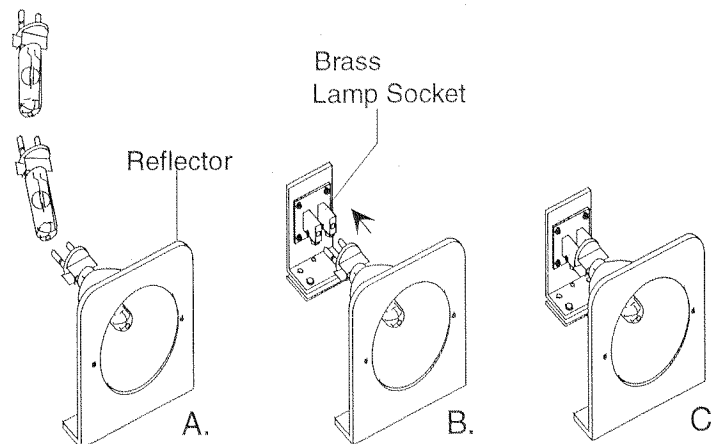
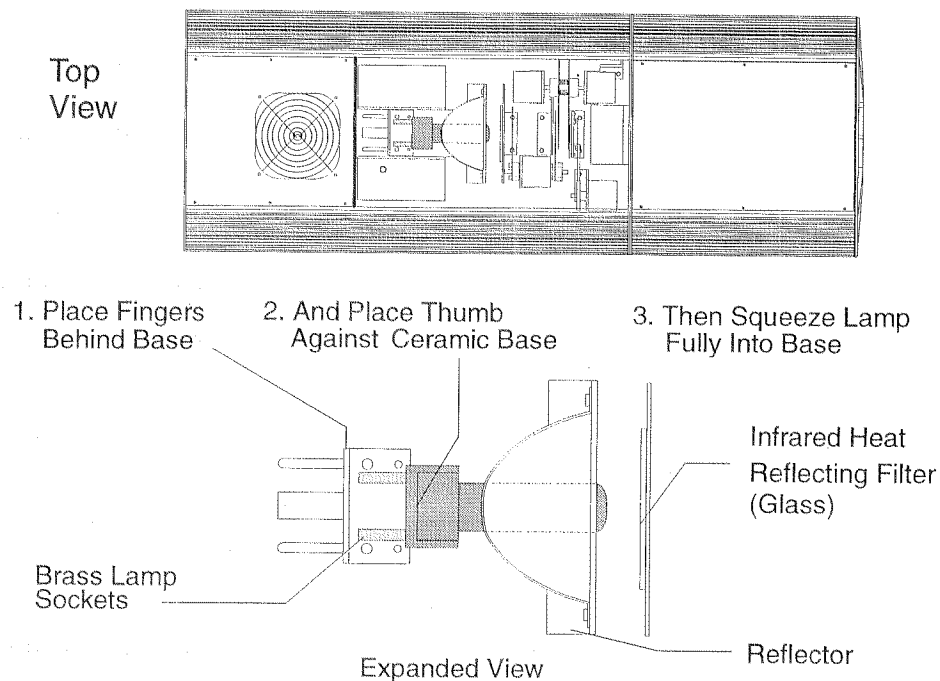

Figure 2.12. Installing Lamp into Lamp Socket Sequence
Figure 2.13. Completing Lamp Installation
6. Holding on to the ceramic lamp base, gently lower the glass portion of the lamp into the reflector as Figure 2.12 view A shows. **Avoid touching any part of your skin to the lamp's glass envelope.** Oil and residue from your fingers can create a "hot spot" on the lamp causing premature lamp aging.
7. Level the lamp in the reflector and guide the lamp into the socket as Figure 2.12 view B. shows.
8. Firmly press the lamp into the lamp socket until fully seated as Figure 2.12 view C. and Figure 2.13 steps 1, 2, and 3 show.